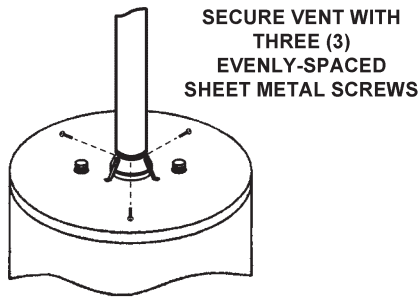

FIGURE 17.
- Fit the bottom opening of the pipe over the top opening of the flue reducer. See Figure 17. Ensure that there is no gap and that the seal is complete.
- Secure the flue pipe to the reducer with three (3) evenly-spaced sheet metal screws (Figure 17). **Do not leave any open holes in the flue reducer or flue pipe.**